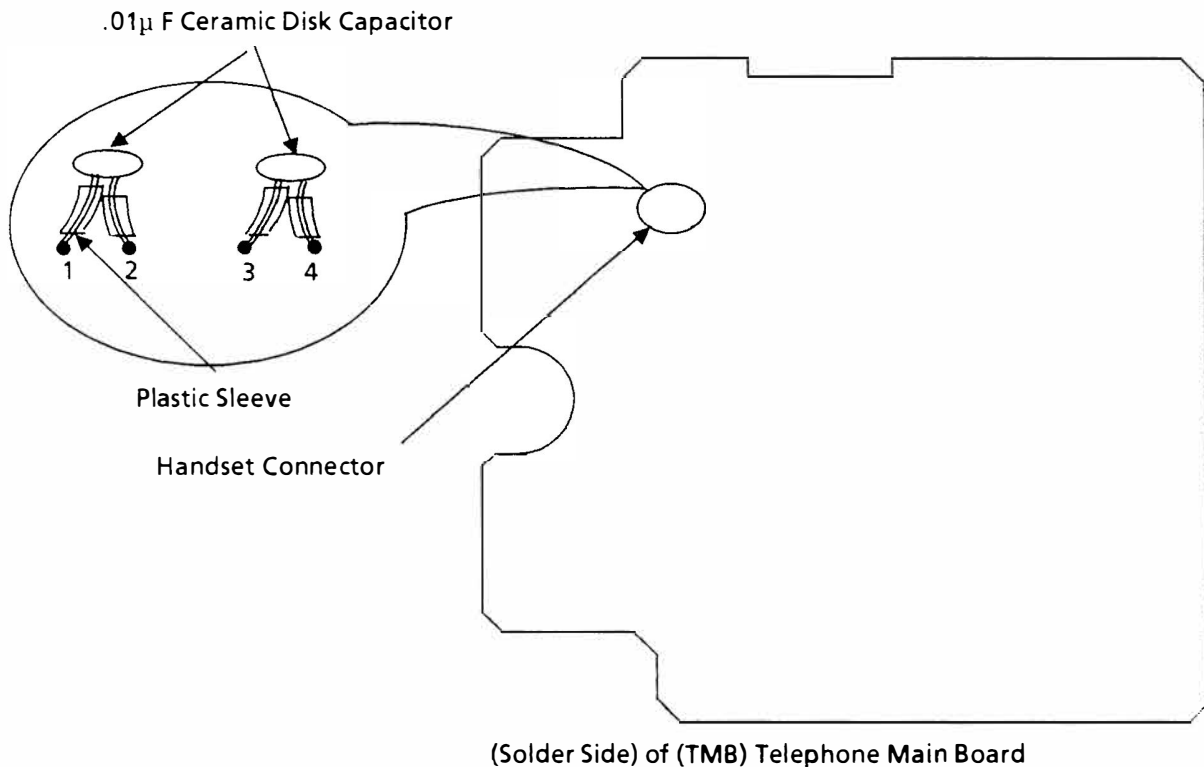

Figure 2 ETZ-16()-1 PCB
- 4.12.5 Solder two .01µF ceramic disk capacitors on the solder side of the *handset connector* designated HAND on the main PC board; one capacitor across pins 1 & 2 and the other across pins 3 & 4. Use plastic sleeving over the capacitor leads to prevent electrical shorts. **KEEP THE LEADS AS SHORT AS POSSIBLE** (see Figure 2).